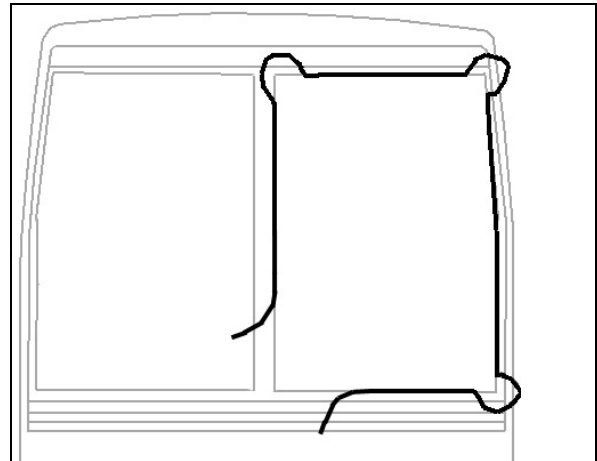

FIGURE 88: WINDSHIELD INSTALLATION USING ROPE
- Insert rope into rubber extrusion leaving enough length at each corner to make a loop. Spray soapy water onto rope and rubber extrusion (Figure 88).